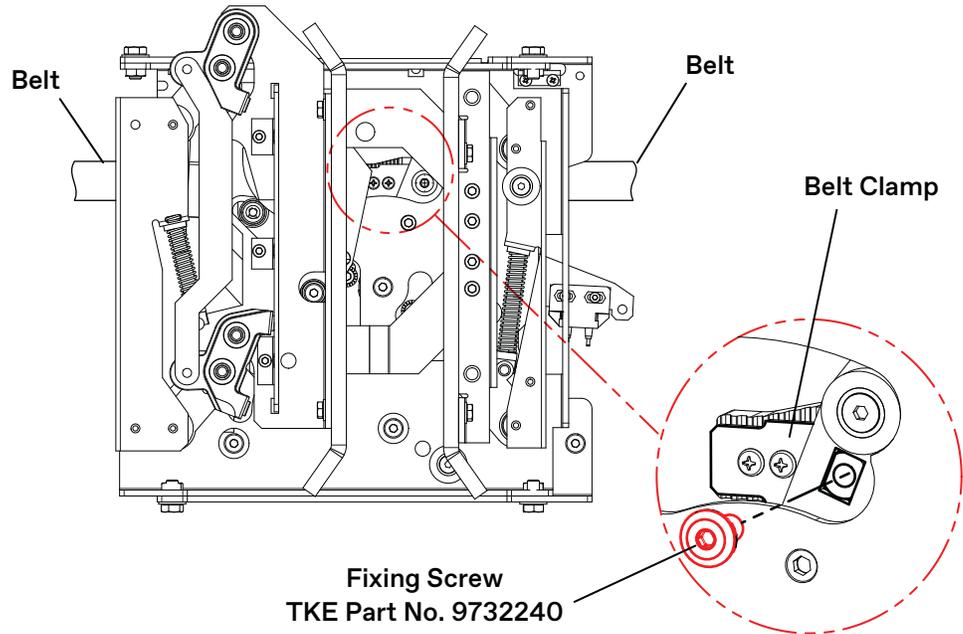

Figure 15 - Attach Clutch to the Belt
5. Insert a fixing screw into the belt clamp to connect the clutch and the belt clamp. See Figure 15.